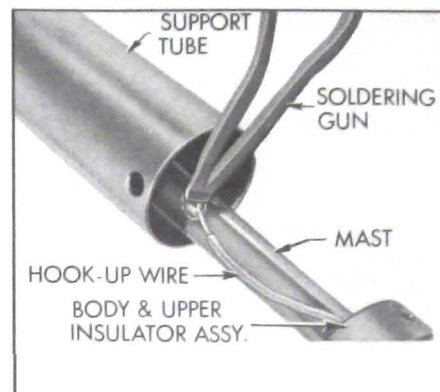

Figure 11-14—Soldering the Hook-Up Wire to the Mast
3. Unsolder hook-up wire at the .400" tube section. See Figure 11-14.
5. Solder this free-end of the hook-up wire to the .400" tube section using rosin flux solder. See Figure 11-14.